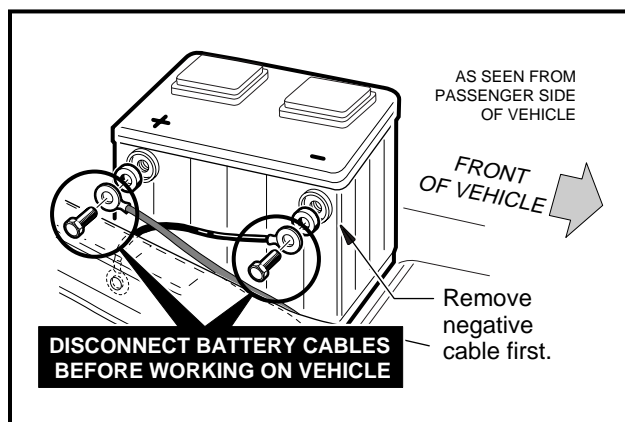

Figure 10-1 Battery Cable Removal
- DISCONNECT BATTERY CABLES, NEGATIVE (–) FIRST (**FIGURE 10-1, PAGE 10-2**).